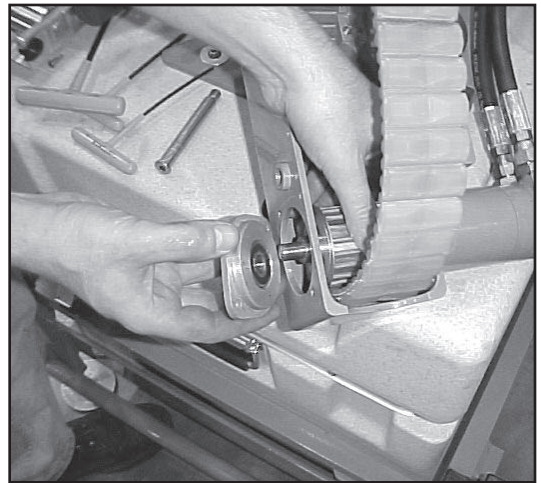

Figure 10
10. Remove bearing cap (Figure 10)